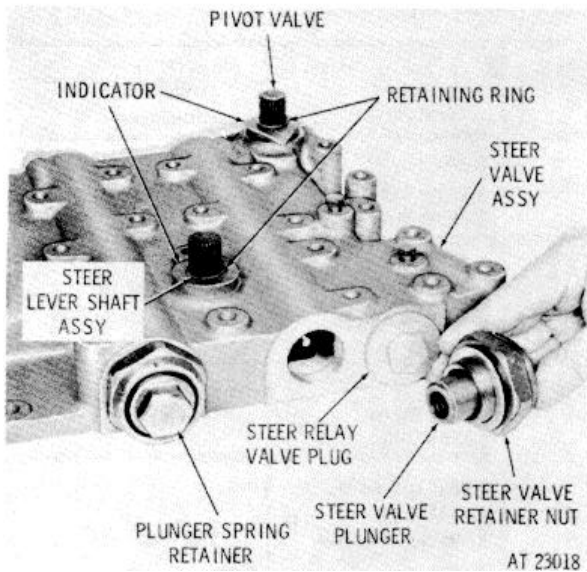

Figure 7-57. Removing (or installing) steer valve plunger and related parts.
a. Remove steer valve retainer nuts together with their steer valve plungers, plunger spring retainers, and gaskets from the steer valve body. Refer to figure 7-57.
- b. Remove retaining rings and indicators from pivot valve and steer lever shaft assembly (fig. 7-57)
- f. Remove the steer relay valve plug and gasket from steer valve body (fig. 7-57).
- g. Remove spring (76, FO-12), valve (75) and plug valve (74).
- h. Remove 12 bolts (55 and 122), flat washers (57 and 120) and lockwashers (56 and 121) which retain cover (119). Remove valve body cover (119) and gasket (118) from valve body (109).
- i. Remove detent spring (59), detent ball (60) and drive relay valve spring (117) and stop pin (58).
- j. Remove drive relay valve (116).
- k. Remove retaining rings (66 and 67) and pivot valve indicator (65) from pivot valve (63).
- l. Remove pivot valve (63, FO-12) from steer valve body (109).
- m. Remove preformed packing (64) from steer valve body (109).
- n. Remove plugs (68) from steer valve body (109).
- o. Do not remove dowel pin (62) unless replacement is necessary.
- p. Do not remove detent sleeve (111) unless replacement is necessary.
ac. Install steer indicator (71) on shaft assembly (114) in the position shown in figure 7-57 (toward front of valve body).
ae. Install retaining nut gaskets (92 and 95), and steer valve plunger, and spring retainer as an assembly. Refer to figure 7-57. Tighten the retainer nuts.